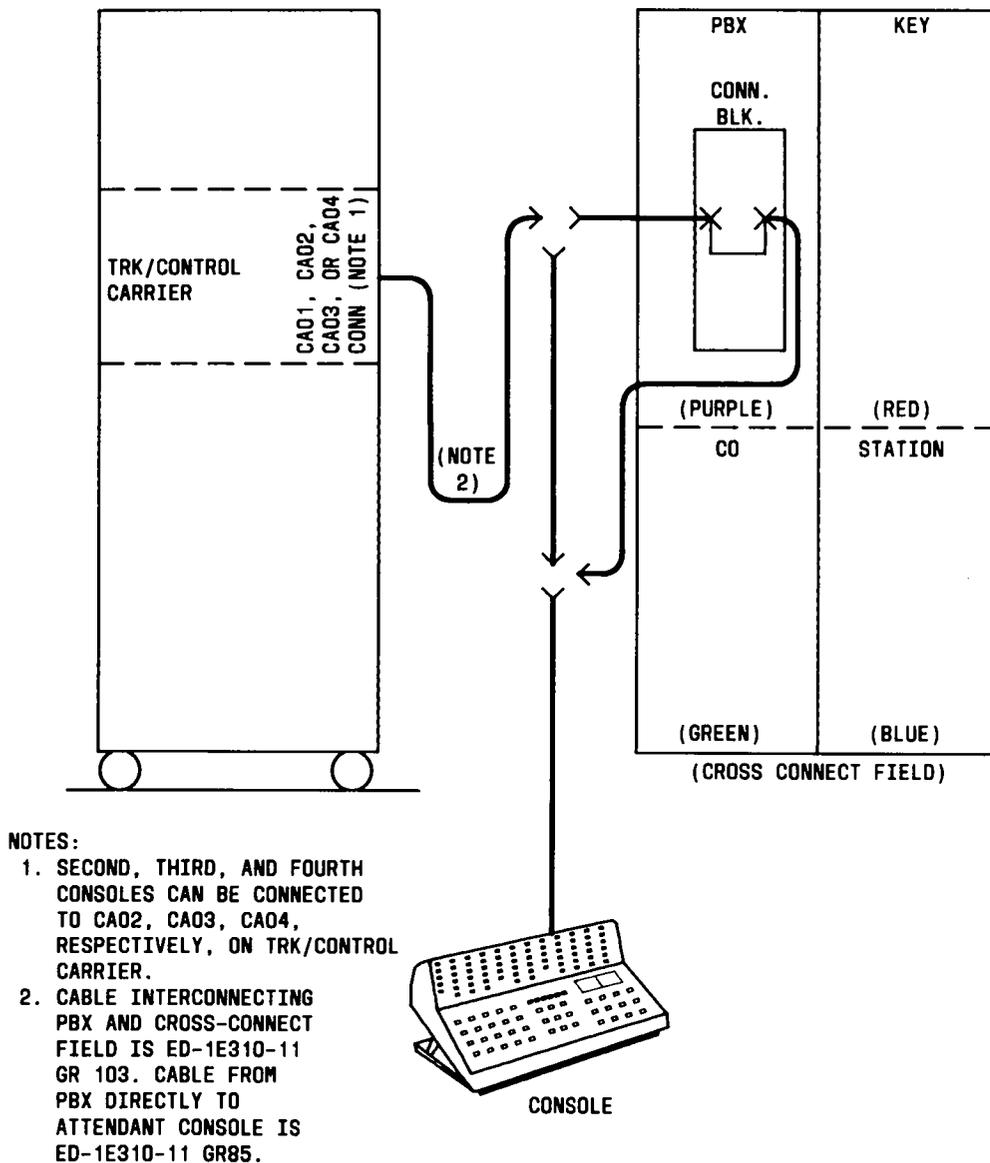

Fig. 58—Console Connected to the PBX via the Cross-Connect Field
**9.15** The attendant console may be connected directly to the CA01 connector on the trunk/control carrier using an ED-1E310-11 GR85 cable no less than 9 meters (30 feet) long. Otherwise, the console can be connected to the cross-connect field (107B connectorized block) using an ED-1E310-11 GR103 cable [GR84 cable (A&M) is used with earlier nonconnectorized blocks]. Refer to Figure 58 for an illustration of these connections. Second, third, and fourth attendant consoles are connected to the CA02, CA03, and CA04 connectors, respectively, on the J58891AA trunk/control carrier.